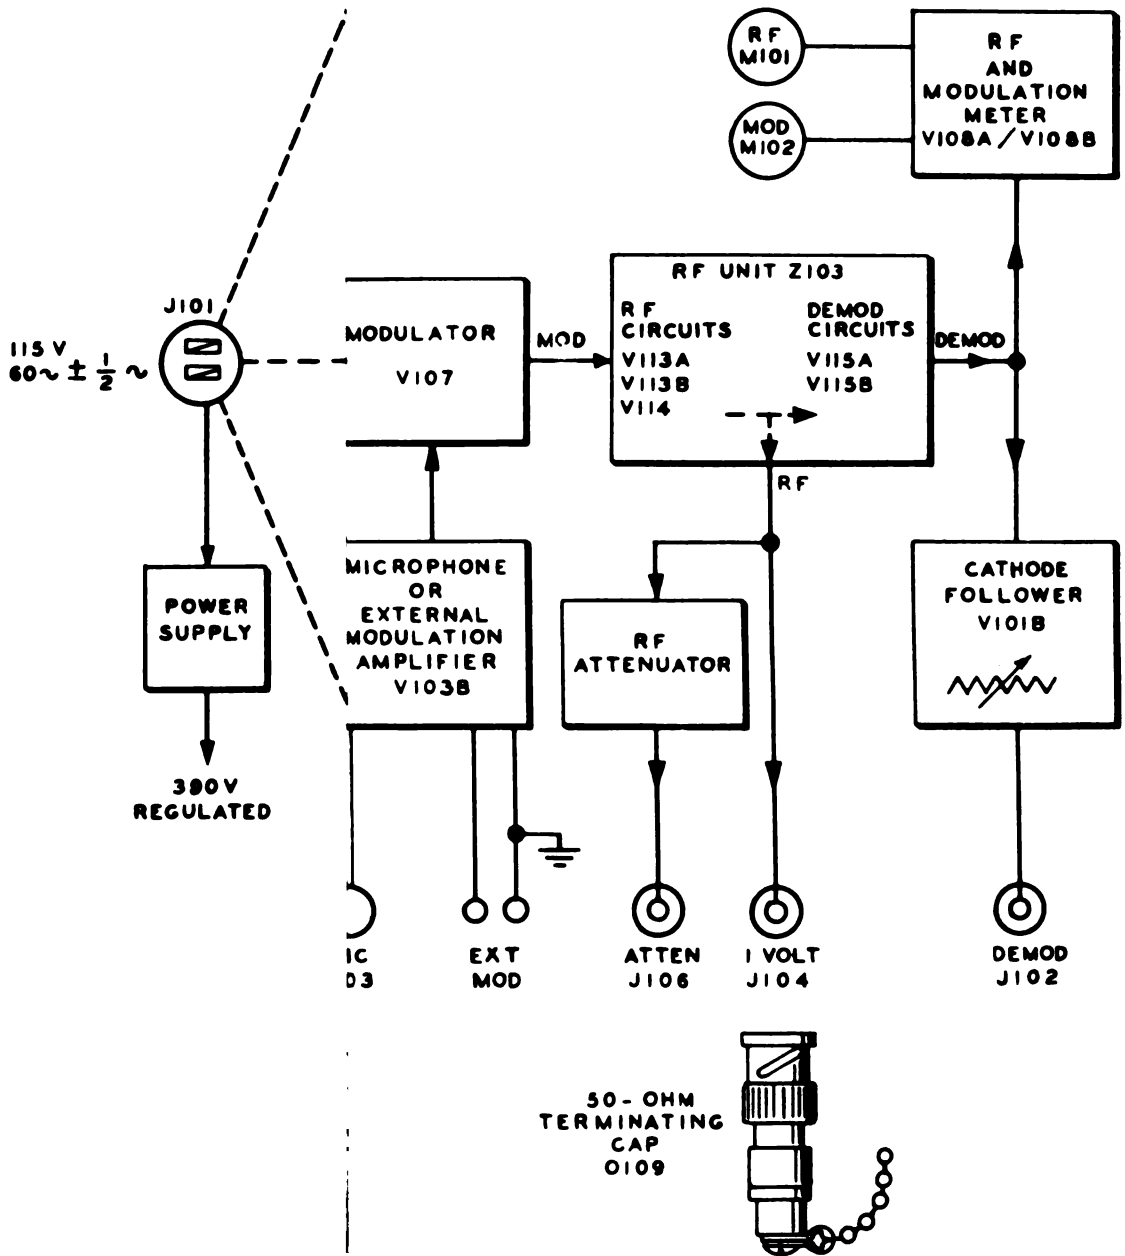

Figure 1-2. Signal Generator SG-66/ARM-5, Block Diagram
1-16. A ten-position switch, known as the "FUNCTION switch" determines the type of emission: omni, phase localizer, or amplitude localizer. The phase localizer and amplitude localizer functions each have three positions on this switch corresponding to "off course, needle right," "off course, needle left," and "on course" signal emissions; the omni function has a single position. In the block diagram, figure 1-2, the relationship of the various functional circuits of the signal generator is shown for each of the three possible types of emission. Though not shown in figure 1-2, the
1-18. OMNI SIGNAL CIRCUIT. As shown in section A of figure 1-2, the four 30-cycle tone wheel coils (L101, L102, L104, and L105) are connected to the OMNI TRACK switch S103. These coils are disposed about the tone wheel E116 at precise angular spacings of 0, 30, 120, and 180 degrees. The OMNI TRACK switch selects these coils in pairs in various combinations, and connects one to the input of the reference channel amplifier V101A and the other to the variable channel amplifier V104A. The output of the reference amplifier is clipped symmetrically by the twin-diode limiter V102 and applied to the modulator tube V107 as the reference-phase component of modulation. The output of V104A is clipped by a similar limiter V105, then discriminated. The resulting 30-cycle signal is passed through a 30-cycle filter for the elimination of harmonics and high-frequency components. It is then amplified by V103A and applied to the modulator as the variable-phase component of modulation. The discriminator connections are such that the 30-cycle output voltage is maximum when the frequency of the frequency-modulated input signal is minimum. By definition this corresponds to
a 180-degree phase difference between the reference and variable channel signals. Therefore, when the reference and variable channels are fed from the same pick-up coil, the reference and variable channels are 180 degrees out of phase corresponding to a track angle of 0 degrees. The phase relationship between the 30-cycle frequency modulation on the reference-phase component of modulation and the 30-cycle variable-phase component of modulation is determined by the particular pair of tone wheel coils selected by the OMNI TRACK switch. By selecting these coils in proper combination, the OMNI TRACK switch is capable of shifting the "track angle" through 360 degrees in twelve 30-degree steps. At intermediate (odd 15-degree) positions of the track switch an additional phase shift is introduced by the connection of an RC phase shifting circuit between the 30-cycle filter and the amplifier V103A. The OMNI TRACK switch is calibrated in ANGLE TO degrees, to simulate an omni transmitter. At a zero degree setting of the track switch, the phases of the reference and variable channel components are opposite, and the emitted signal is the same as that which would be received by an aircraft due south of an omni transmitter. A 90-degree setting provides modulation corresponding to the signal received due west of the omni station, and so forth. The modulation percentage of each of the modulation components is adjusted to the proper 30 per cent value by means of two potentiometers, one in each channel, immediately following the two limiter tubes V102 and V105. These panel controls are marked 30 ~ MOD and 9960 ~ MOD. Adjustments must be made with the FUNCTION switch set in the correspondingly marked SET positions (not shown in figure 1-2; see figure 2-1) which provide for separately connecting, each of the modulation components to the modulator.
1-19. PHASE LOCALIZER CIRCUIT. Phase localizer signals are the same in character as omni signals with the following exceptions: For an "on-course" indication, the 30-cycle component is zero; for "off course, needle right," the 30-cycle component is in phase with the reference modulation on the 9960-cycle subcarrier; and for "off course, needle left," the 30-cycle component is shifted 180 degrees from the reference modulation phase. As shown in section B of figure 1-2, the input for the reference phase of the simulated phase localizer signal is always taken from one coil (L101) associated with the tone wheel E116. For a simulated "needle center" (on course) signal, the input of the variable phase channel is grounded. The input of this variable phase channel is connected to the reference coil L101 for "needle left" signals, and to the diametrically opposite tone wheel coil L105 for "needle right" signals. In addition, in all PH LOC positions of the FUNCTION switch, a resistive attenuating network is switched into the variable phase channel to reduce the 30-cycle component of modulation from the normal omni value of 30 per cent to 7.5 per cent for off-course phase localizer test signals.
amplitude localizer tone wheel E115 is cut so as to provide a 9960-cycle signal frequency-modulated simultaneously at 90 cycles and 150 cycles. When the FUNCTION switch is set to any of the three AMP LOC positions, the input to the reference phase channel is disconnected from the tone generator and grounded, and L103, the amplitude localizer pick-up coil, is connected to the variable phase channel. (See figure 1-2.) Also, a 150-cycle low-pass filter is switched into the circuit in place of the 30-cycle filter in order to pass the 90-cycle and 150-cycle voltages produced by the discriminator, and to remove the higher-frequency components. The filter is followed by a ratio network, the function of which is to set the relative levels of the 90-cycle and 150-cycle components as required. When the FUNCTION switch is in the AMP LOC ① (needle center) position these voltages are equal and each provides 20 per cent modulation of the carrier. For the AMP LOC ② (needle left) and AMP LOC ③ (needle right) switch positions, the voltages are unbalanced to such an extent as to produce "3 dot" deflection, left or right, in a standardized localizer receiver. This corresponds to an increase of 2 db in one component and a decrease of 2 db in the other component.